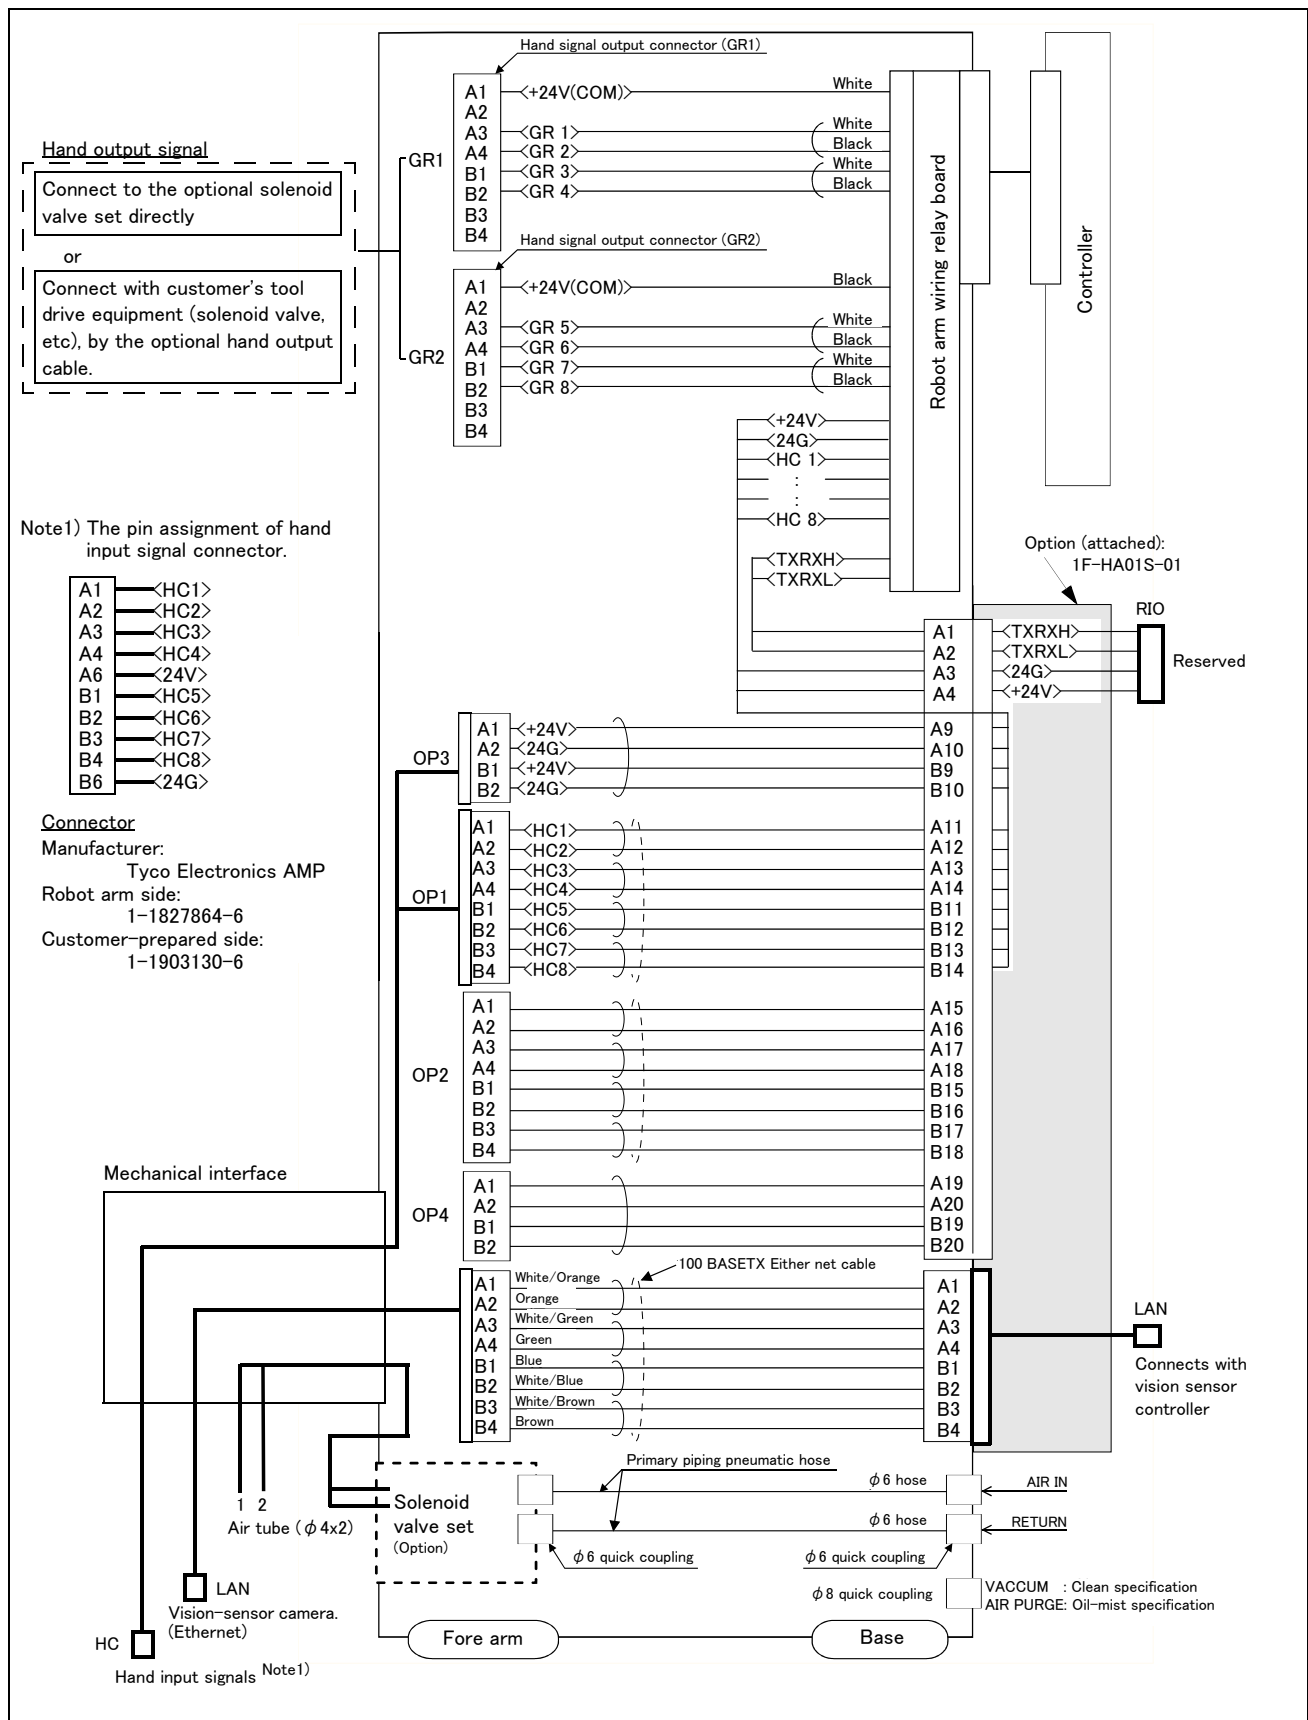

Fig.2-31 : Wiring and piping system diagram for hand and example the solenoid valve installation: SH05
- *3) Refer to Fig. 2-31 for pin assignment of the hand input cable (HC).